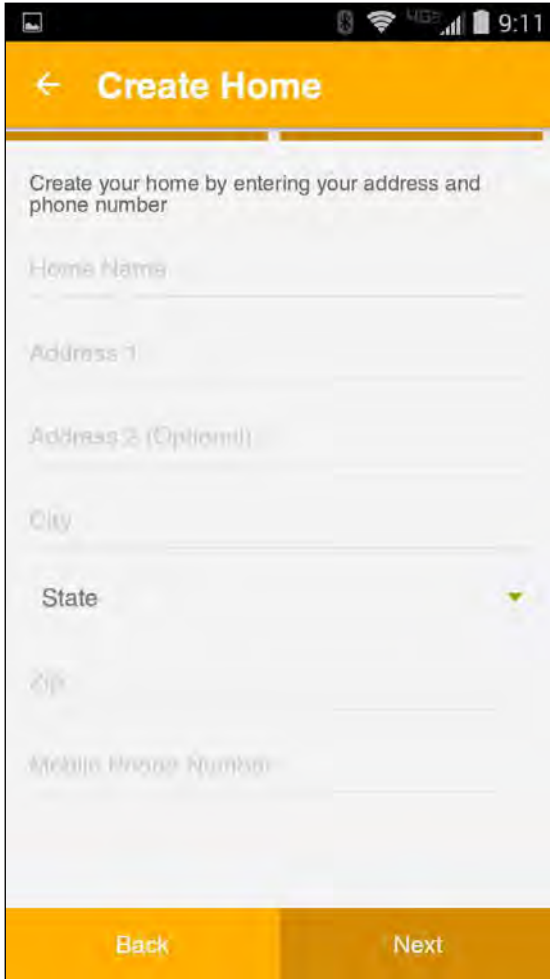

Figure 4
3. **Create Home (2):** Organize the Smart Appliances by location and associate each one with a home. The consumer can give their location a name, fill-in the address information and their Mobile Phone Number, and then select “Next.” See Figure 4.